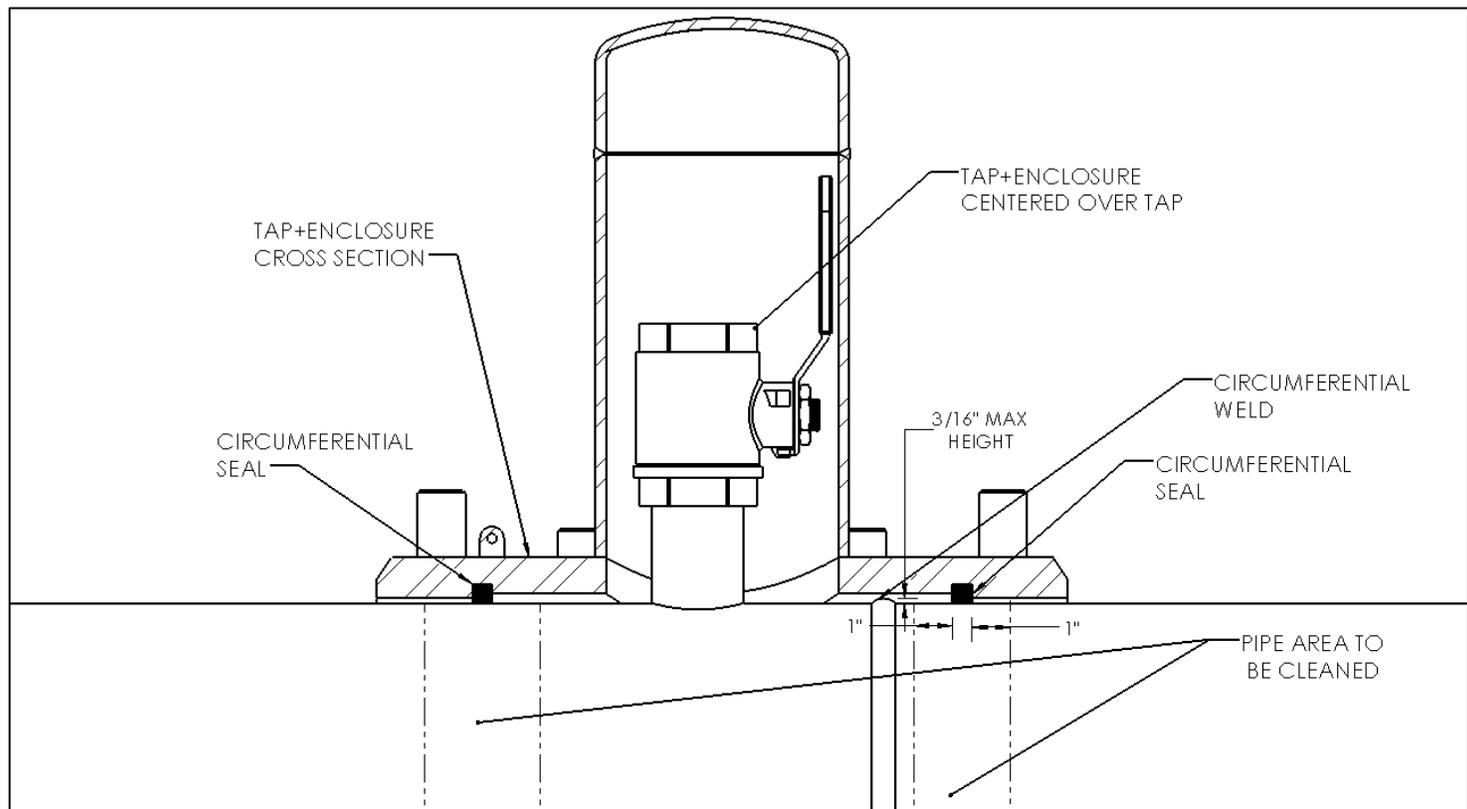

Figure 1
1. Remove all coatings, rust and scale from the pipe surface where the circumferential seals of the PLIDCO Tap+Enclosure will contact the pipe (see Figure 1). A near-white finish, as noted in SSPC-SP10 / NACE No.2, is preferred. The cleaner the pipe surface the more positive the seal.
3. Circumferential pipe welds within the circumferential seals do not need to be ground flush as long as the weld height does not exceed 3/16 inch (4.7 mm) (see Figure 1).